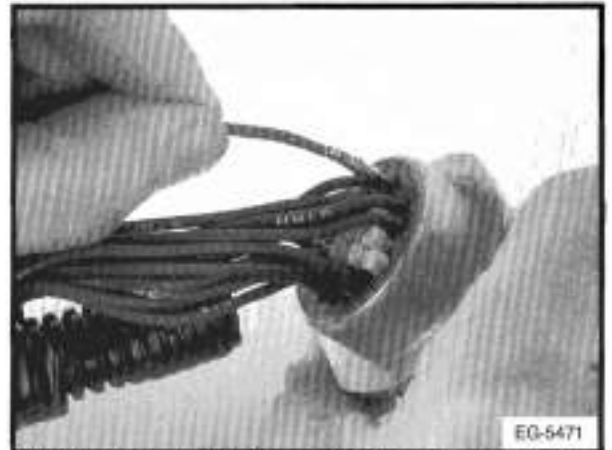
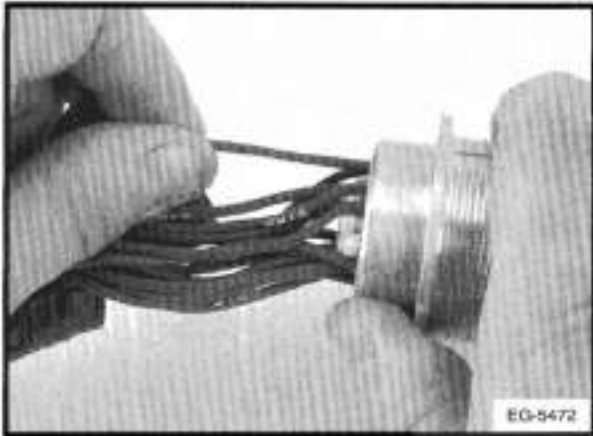

Figure 6-9. - Connector/Contact **For Insertion**
Figure 6-10. - Verification of Contact Seating
3. Push the contact straight into the appropriate cavity in the connector grommet, until a positive stop is felt. The retaining fingers in the connector will snap behind the shoulder of the contact and lock it in place. (Figure 6-9.). A slight tug backward on the wire will verify that the contact is properly seated. (Figure 6-10)